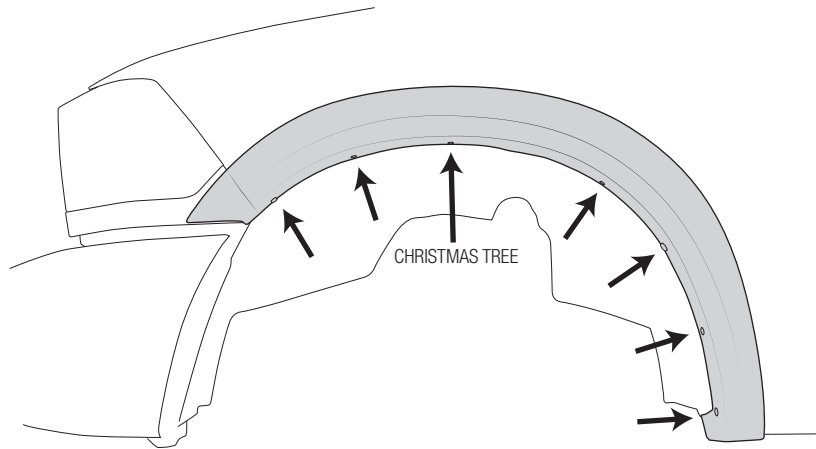

Figure 1
1. Remove the factory wheel flares (if equipped) and wheel liners (fig. 1).